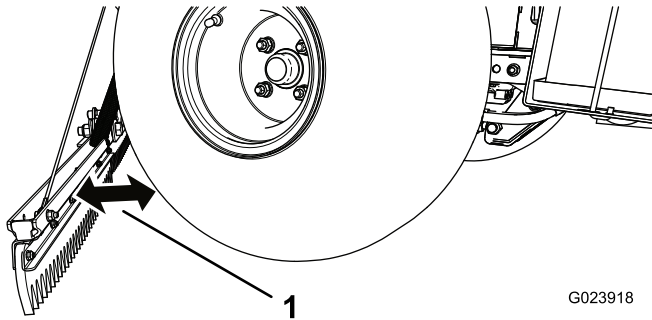

Figure 18
1. Pivot the rake to 1 side. The stop bolt should contact the drawbar when the rake is 51 mm (2 inches) away from the tire (Figure 18).